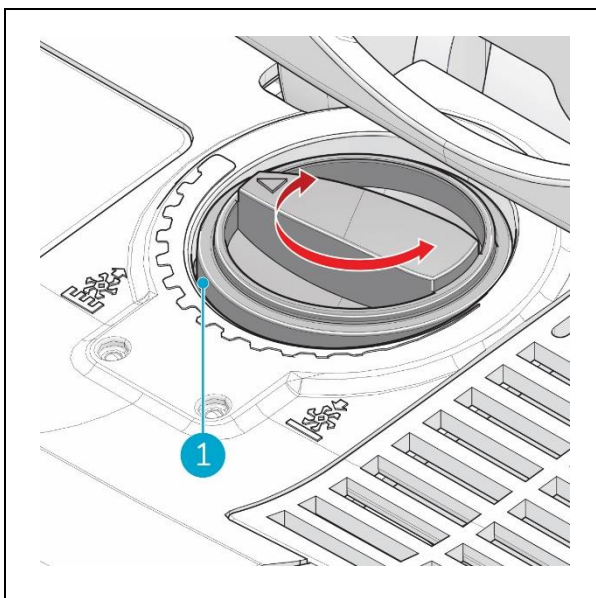

Figure 17
Turn the height adjustment knob (Figure 17, pos 1) to adjust the height of the rotating brush.